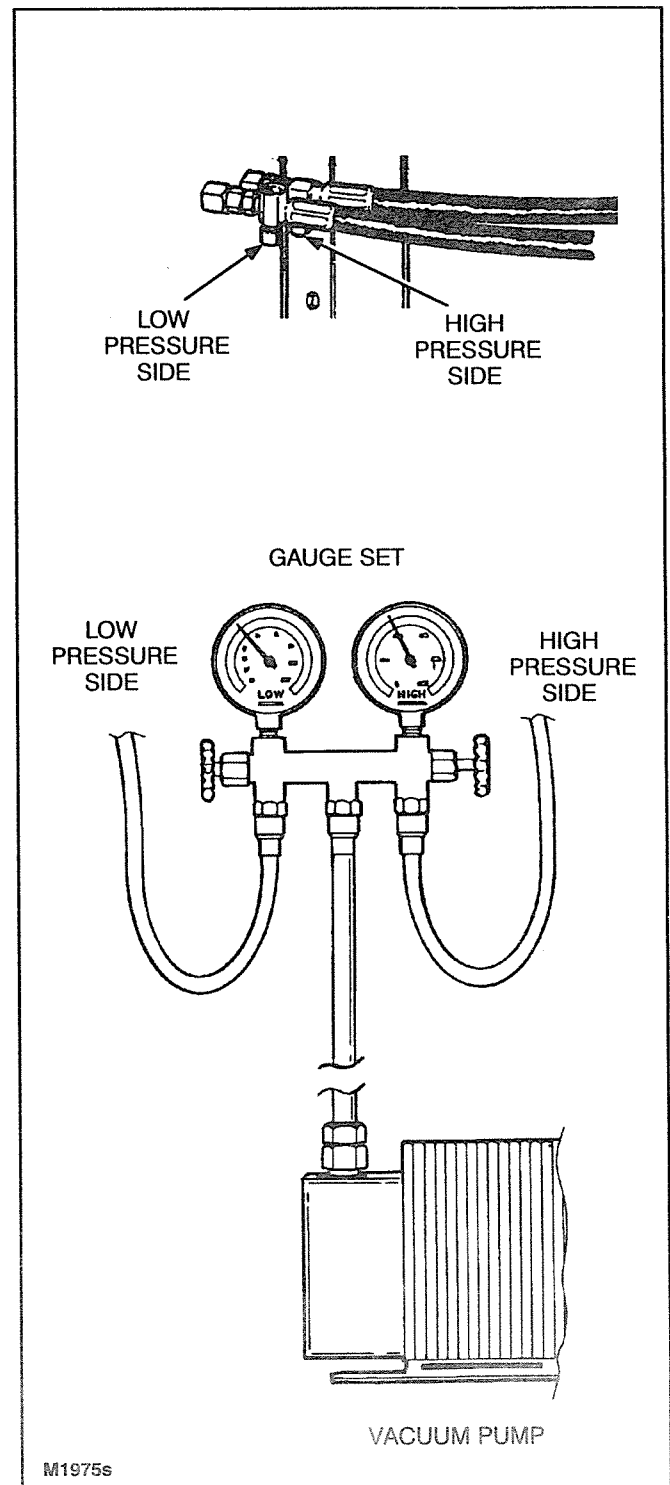

FIGURE 13-3. GAUGE AND VACUUM PUMP CONNECTIONS
Make sure that the AC hose fittings are secure at the evaporator and at the power unit. Attach a gauge set to the high pressure (HP) and low pressure (LP) sides of the system at the refrigerant quick connect access valves next to the power unit. Attach a vacuum pump to the center hose of the gauge set. Figure 13-3 shows the gauge set and vacuum pump connected to the system.